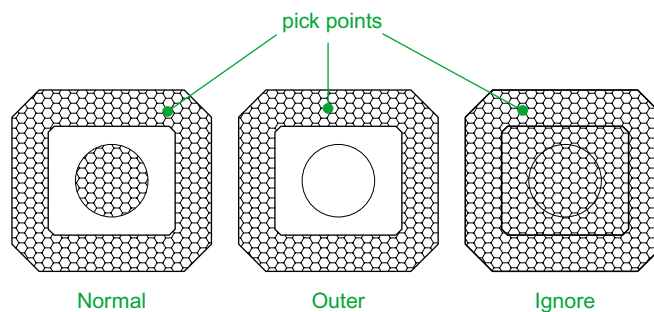

Fig. 8.17 Fifth example – advanced hatching
## Fifth example – advanced hatching (Fig. 8.17)
1. Construct a drawing which includes three outlines as shown in the left-hand drawing of Fig. 8.17 and copy it twice to produce three identical drawings.